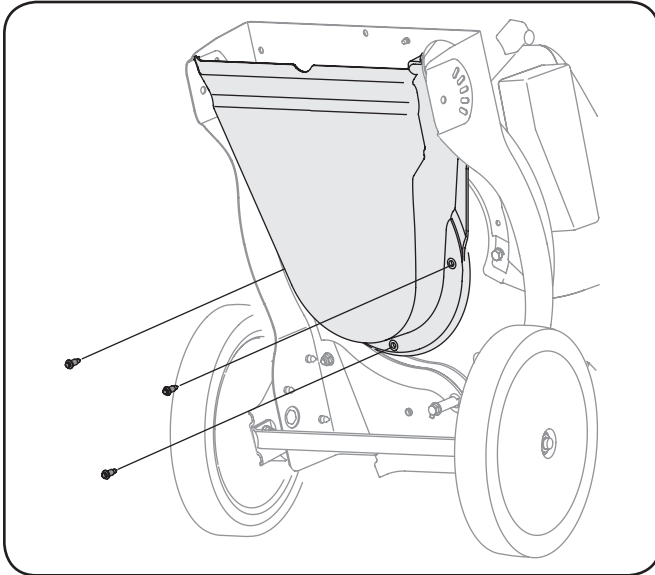

Figure 7-4
- Carefully tilt and support the unit up to provide access underneath to the nozzle mounting hardware and impeller. Remove the three shoulder bolts securing the black plastic lower flail housing to the lower housing. Refer to Fig. 7-4.